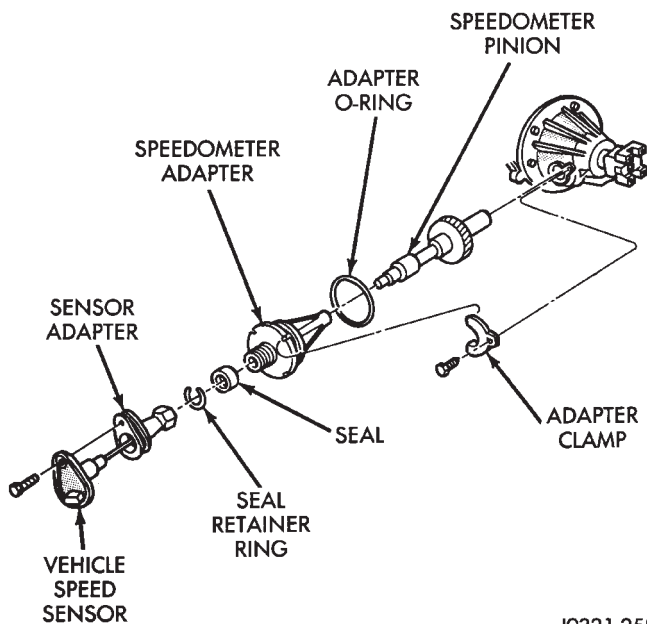
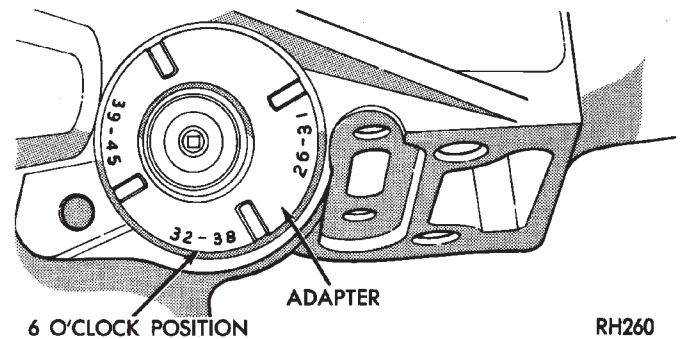

Fig. 18 Speedometer Components (With Two-Piece Sensor)
Fig. 20 Indexing Speedometer Adapter (With Two-Piece Sensor)
- (1) Raise vehicle.
- (2) Disconnect speed sensor wires.
- (3) Remove bolt attaching vehicle speed sensor to sensor adapter. Then slide sensor out of adapter.
- (4) Inspect speed sensor mounting area in sensor adapter. If transmission fluid is found in this area, oil seal in metal speedometer adapter is leaking and will have to be replaced.
- (5) Remove speedometer adapter clamp bolt and remove clamp (Fig. 18).
- (6) Remove speedometer adapter, sensor adapter and speedometer pinion as assembly.
- (5) Count number of teeth on speedometer pinion. Do this before installing pinion and adapter.
- (6) Note range numbers on face of speedometer adapter (Fig. 20). These numbers correspond to number of teeth on speedometer pinion.
- (7) Install pinion in adapter and install assembled pinion and adapter in transmission or transfer case.
- (8) Rotate speedometer adapter until required range numbers are at 6 o'clock position (Fig. 20). **Verify that range numbers correspond to number of teeth on pinion.**
- (9) Push speedometer adapter into place until seated.
- (10) Install speedometer adapter clamp and bolt. Tighten bolt to 11 N·m (100 in. lbs.) torque.
- (11) Install sensor adapter on speedometer adapter (Fig. 18). Tighten sensor adapter coupling nut to 17 N·m (150 in. lbs.) torque.
- (12) Carefully align and insert vehicle speed sensor into sensor adapter.
- (13) Install bolt that attaches speed sensor to adapter. Tighten bolt to 5-8 N·m (48-72 in. lbs.)
- (14) Connect wires to speed sensor.
- (15) Lower vehicle.
- (16) Check top off transmission fluid level if necessary.